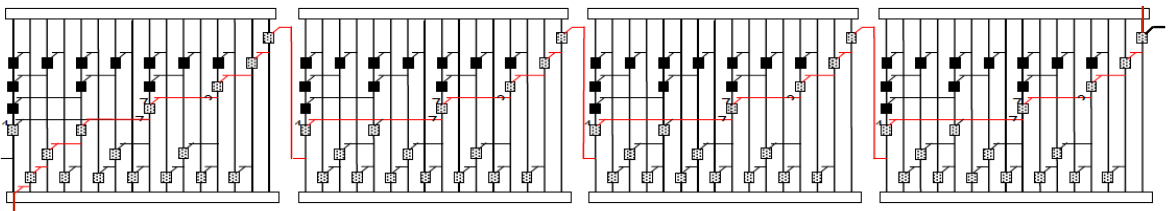

Figure 13: The 64-bit adder with its critical path drawn in red.
- The last sum to be done is sum 63, which requires G62:0 as an input to its XOR gate. The delay for the critical path is $t_{pg} + (5 + 5 + 5 + 7)t_{AO} + t_{XOR} = t_{pg} + 22t_{AO} + t_{XOR}$. See Figure 13.